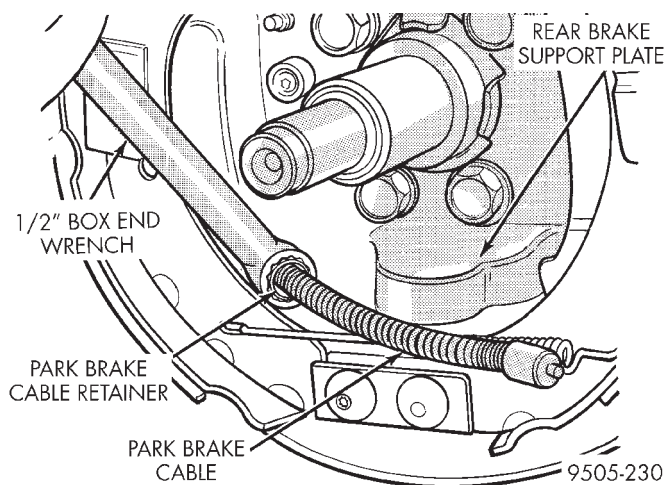

Fig. 150 Park Brake Cable Removal From Brake Support Plate
(22) Remove park brake cable (Fig. 150) from rear brake support plate. Park brake cable is removed from brake support plate using a 1/2 in. wrench as shown in (Fig. 150) to compress locking tabs on park brake cable retainer.